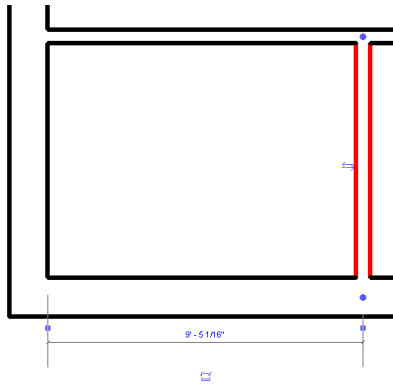

Figure 2-55 Moving the witness lines
- f. Edit the interior walls location to achieve clear internal distances, refer to Figures 2-55 and 2-56.
2. Two blue square dots define the extents of the dimension. Click on the square dot on the left. The dot and the dimension witness line moves to the interior face of the exterior wall, as shown in Figure 2-55.